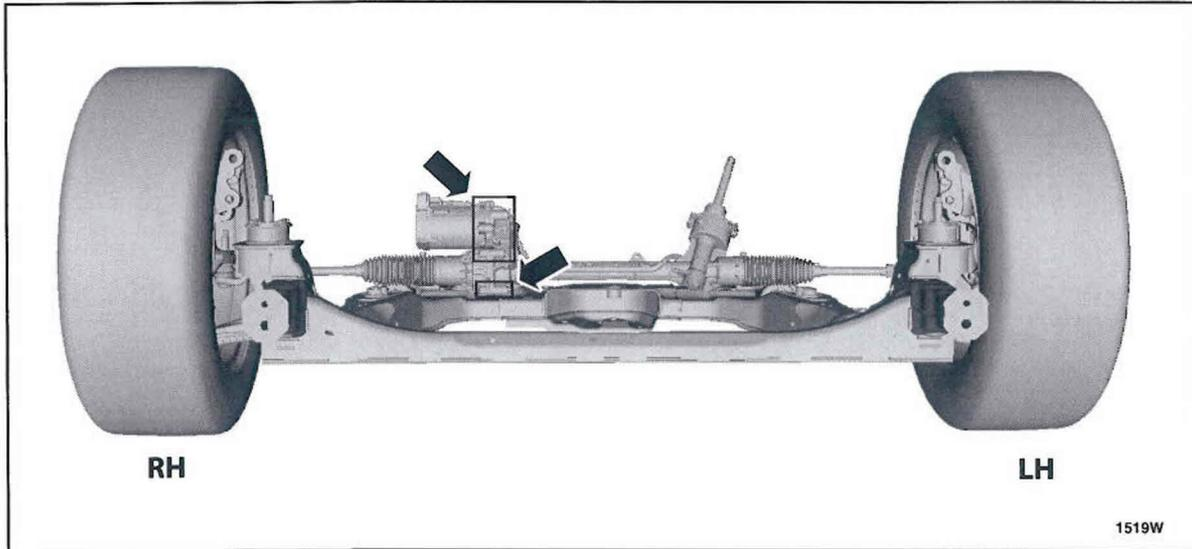

FIGURE 9
7. Working from the front of the subframe, insert nozzle between steering gear and subframe housing seam. Apply sealant to steering gear to housing seam, housing bolt heads and threads. See Figures 9 and 10.